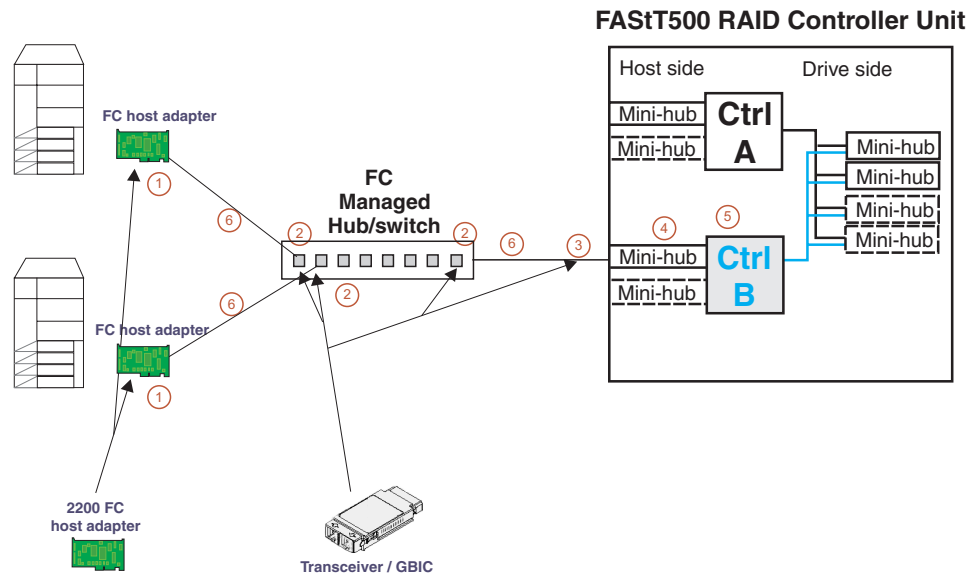

Figure 126. Path elements loop
3. To see more clearly what is involved, redraw the configuration showing the path elements in the loop, as shown in Figure 126 on page 297.
The elements of the paths shown in Figure 126 are as follows: